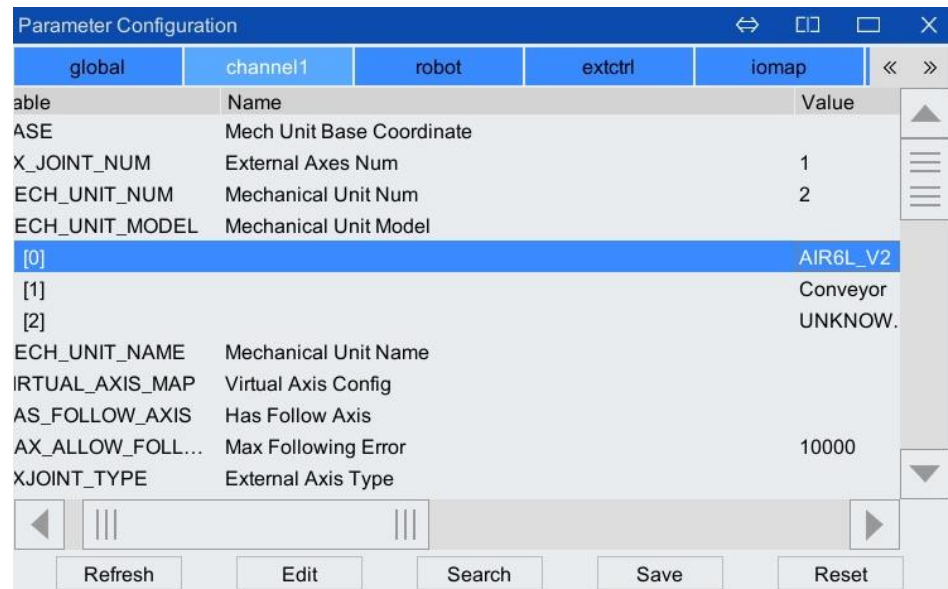

Figure 6-7 Mechanical unit model [MECH_UNIT_MODEL] parameter configuration interface
- Step1. Select [System/Parameter Configuration/Channel] in the upper right corner of the teach pendant main interface, click [+] on the left side of the [MECH_UNIT_MODEL] parameter, and check that the values of sub-items [1] and [2] in the expanded sub-items are "AIR6L_V2" and "Conveyor". As shown in Figure 6-7.